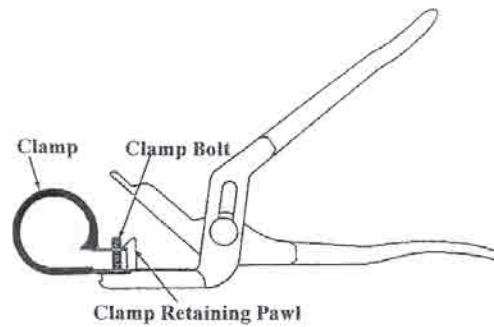

Figure 36. Slip Joint Pliers
51. PLIER, SLIP JOINT. This tool to facilitate the installation of cable clamps is shown in Figure 36. Similar to conventional multiple slip joint pliers, the tool compresses and holds the clamp with the securing bolt in place while a nut is being installed on the bolt.